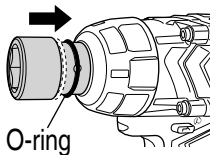

Fig. 11
- (3) While making sure that the pin doesn't fall, attach the O-ring to the groove on the socket. (Fig. 11, 12)